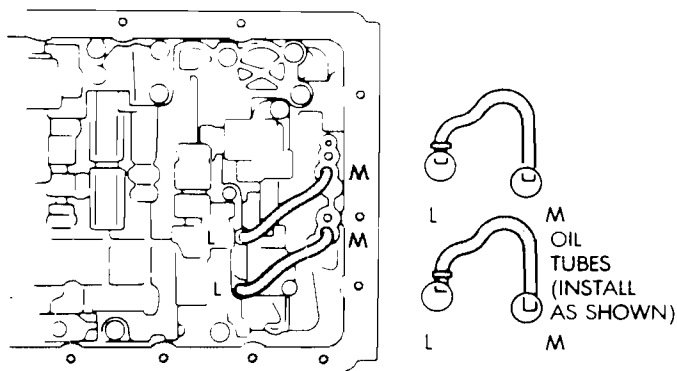

**Fig. 17 Align Shift Sector And Manual Valve**
- (3) Position accumulator springs and spacers on valve body.
- (4) Align valve body manual valve with shift sector (Fig. 17) and carefully position valve body on case.